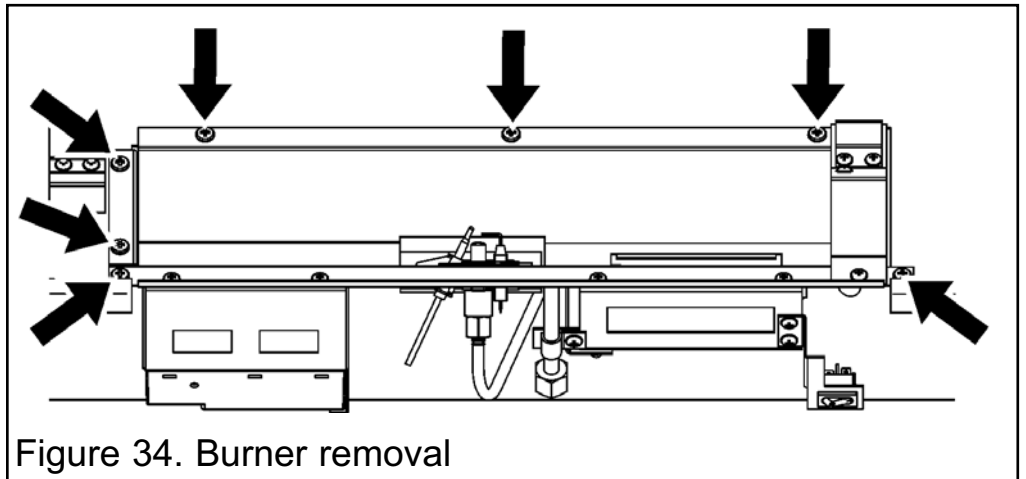

Figure 34. Burner removal
4. Unscrew and remove the seven screws from the top of the burner (See figure 34).